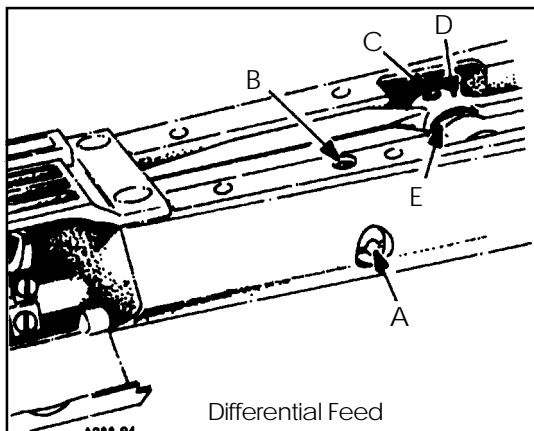
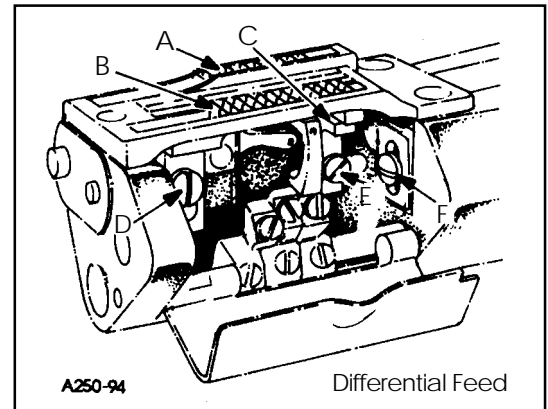

FIG. 10A
FIG. 11A
Before assembling the main and differential feed dogs, set the feed bar eccentric pin (A, Fig. 10A) located in the left side near center of cylinder, so that the slot in the head is in a horizontal position for the 35800BWDNG, BLWG style machines and turned counter clockwise to an approximate 45° for the 35800BWWG style of machine. The pin can be used to slightly tilt both feed dogs if necessary. The feed bar pin is retained in position by set screw (B). Assemble differential feed dog (A, Fig. 11A), main feed dog (B) and throat plate. Both the main and differential feed dogs can be individually adjusted to height. Main feed dog (B) at its highest position, should be set to project above the throat plate, the depth of its teeth. If adjustment is necessary loosen screw (D) and move feed dog (B) up or down to attain correct setting. Feed dog support (C) should support front of feed dog.
NOTE: If eccentric pin (A, Fig. 10A) is used to tilt the feed dogs, make sure that the looper does not interfere with the rear needle guard and that the needle guard does not pinch the needle loops on the back side of the needles.
If adjustment is necessary loosen screw (E, Fig. 11A) in feed dog support (C) and move as required. Retighten screw (E). The differential feed dog (A) may then be leveled with main feed dog (B). If adjustment is necessary loosen screw (F) and move feed dog up or down as required. Retighten screw (F).
**NOTE:** Should the main feed dog require repositioning due to contact with the throat plate in its forward or rearward travel, loosen set screw (C, Fig. 10A) in main feed bar driving link (D), rotate main feed bar eccentric driving stud (E) as required. Driving stud (E) has a thin hexagon head with cutouts on two of the flats allowing movement by tapping with a sharp pointed tool, when wrench 21388AZ is not available. Whenever the main feed bar eccentric driving stud position has been changed, recheck rear needle guard setting, adjustment may be required. Retighten set screw (C). Position main feed dog support (C, Fig. 11A) flush against bottom of main feed dog (B), tighten support screw (E) securely.